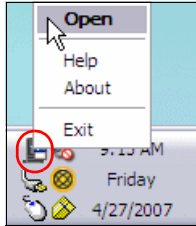

Figure A-32 Open SPT using the system tray icon
- ▶ Right-click the system tray icon and select **Open**, as shown in Figure A-32.